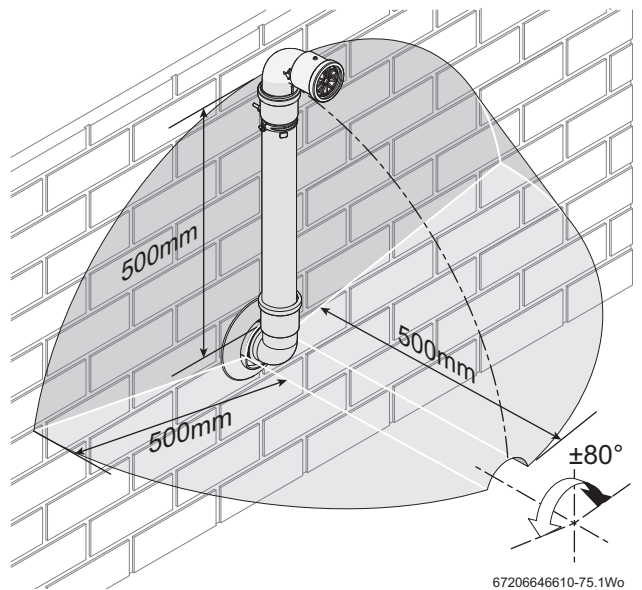

Fig. 17 Terminal exclusion zone
The minimum plume length should be calculated to ensure that the air inlet and exhaust have a minimum distance of 500mm between them (→ figure 17).
► Do not terminate the plume management inside the shaded area shown in figure 17